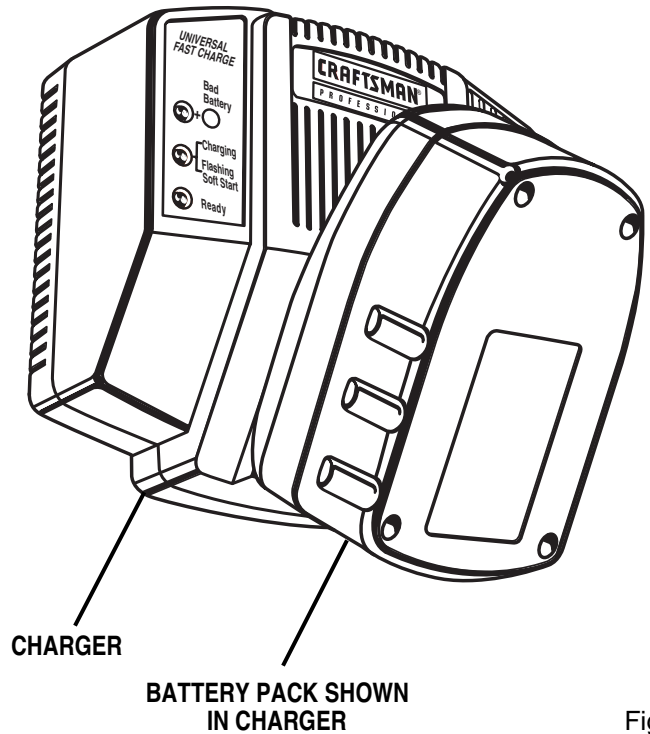

Fig. 3
- Remove battery pack. See Figure 3.